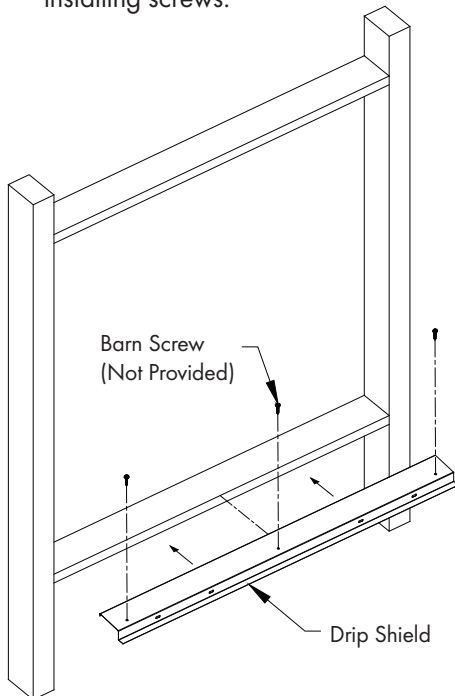

Figure 6A
Attach Drip Shield to bottom of framed opening using (3) Barn Screws (Not Provided). See Figure 6A and 6B. If a 4" wall is used a support board must be installed as shown in Figure 6B. Be sure not to deform Drip Shield when installing screws.